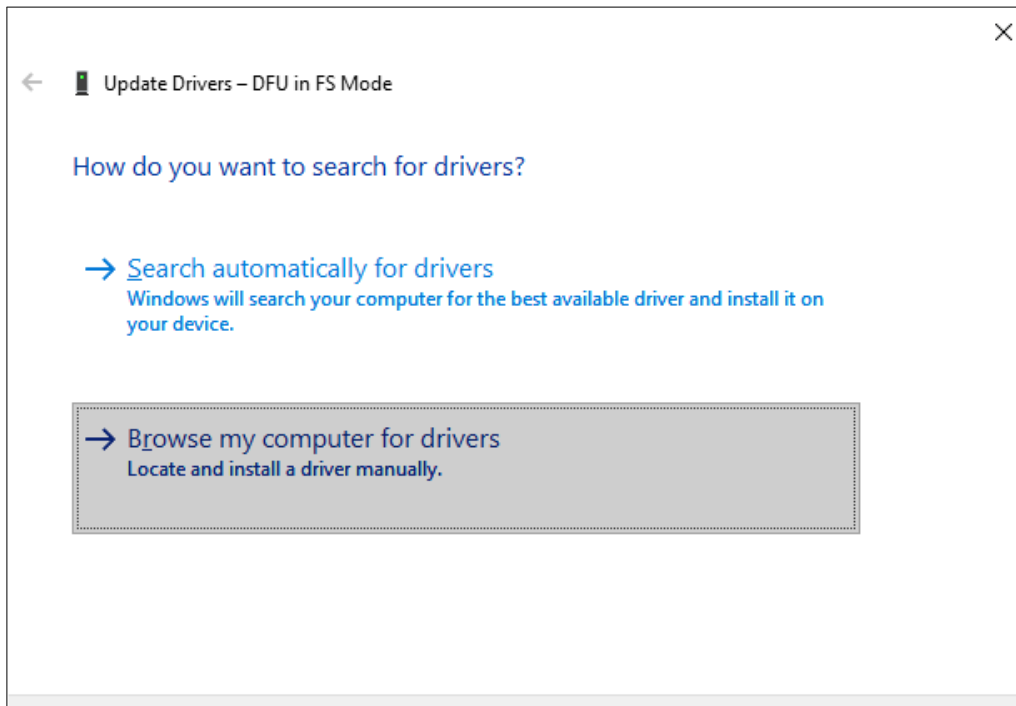

Figure 13: Use the option "Browse my computer for drivers" to pick the driver manually.
- 3 Use the option *Browse my computer for drivers* to pick the driver manually (see Fig. 13).